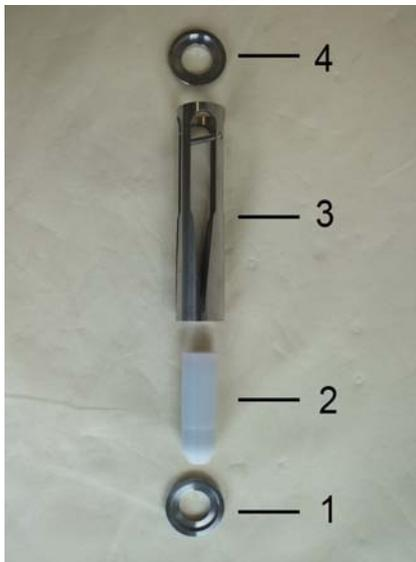

Fig. 37: Inner parts SW-04
5. ➤ The inner parts of the flow monitor consist of the centering disc (inlet) (Fig. 37/1), float (Fig. 37/2), slot nozzle (Fig. 37/3) and centering disc (outlet) (Fig. 37/4).